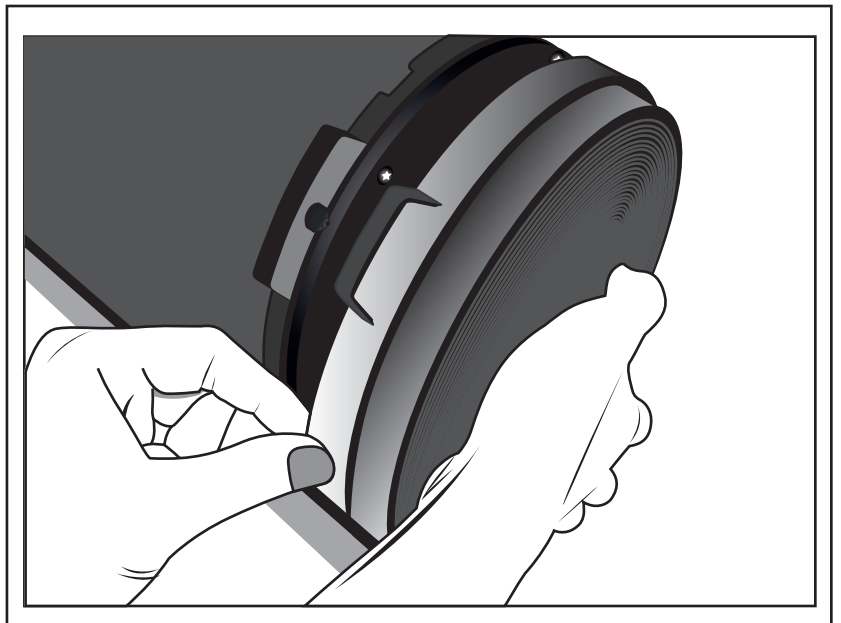

Figure 4
- a) Attach the carbon filters (F) onto the motor inside the range hood. See Figure 4.